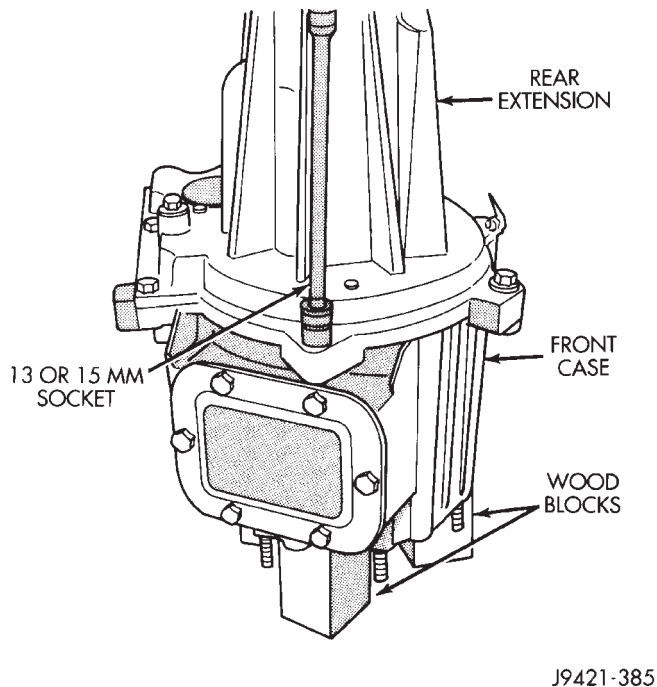
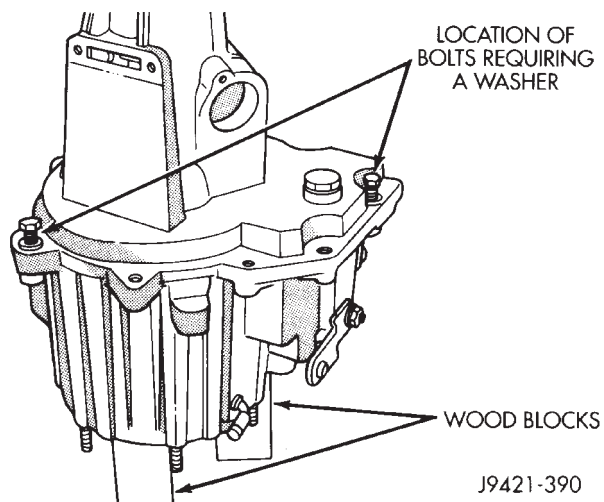

Fig. 22 Removing Rear Extension Attaching Bolts
Fig. 23 Location Of Rear Extension Bolts Requiring Washers
(10) Remove bolts attaching front case to rear extension (Fig. 22). **Two attaching bolts require a flat washer (Fig. 23). Note position of these bolts for assembly reference. Mark bolt position with scribe or with paint stripe.**